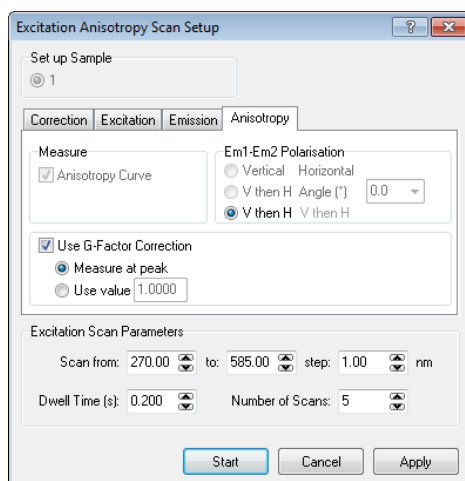

Figure 4-9: Excitation Anisotropy Setup Dialogue Box
3. Close the Signal Rate dialogue box and open **Anisotropy Scan >> Excitation**. Enter appropriate scan parameters in the lower section of the dialogue box, then select the Anisotropy tab (Figure 4-9) to define the anisotropy specific settings.